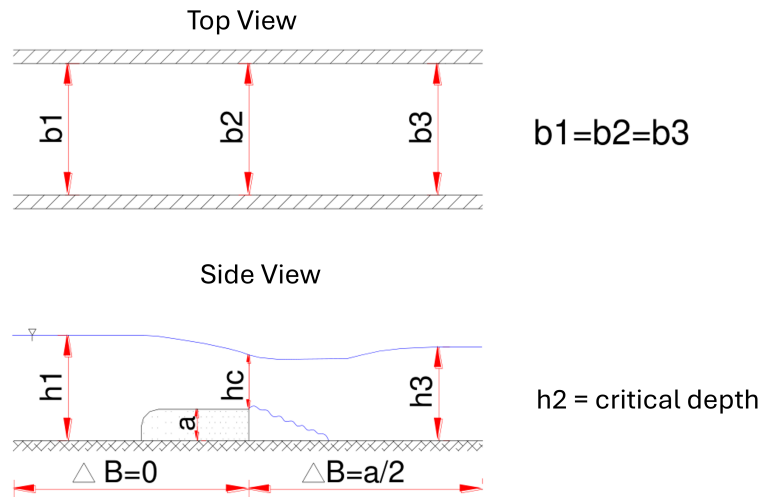

Figure 3: Step installed in a rectangular channel of constant width.
A channel with a width of 1 m has a singularity, as shown in Figure 3. Draw an E vs y diagram with the different flow depths corresponding to the singularity in Figure 3. Assume that $Q = 5 \text{ m}^3/\text{s}$, that the step height is $a = 30 \text{ cm}$, and that there is only one local energy loss of $h_s = 0.15 \text{ m}$ between sections (2) and (3).